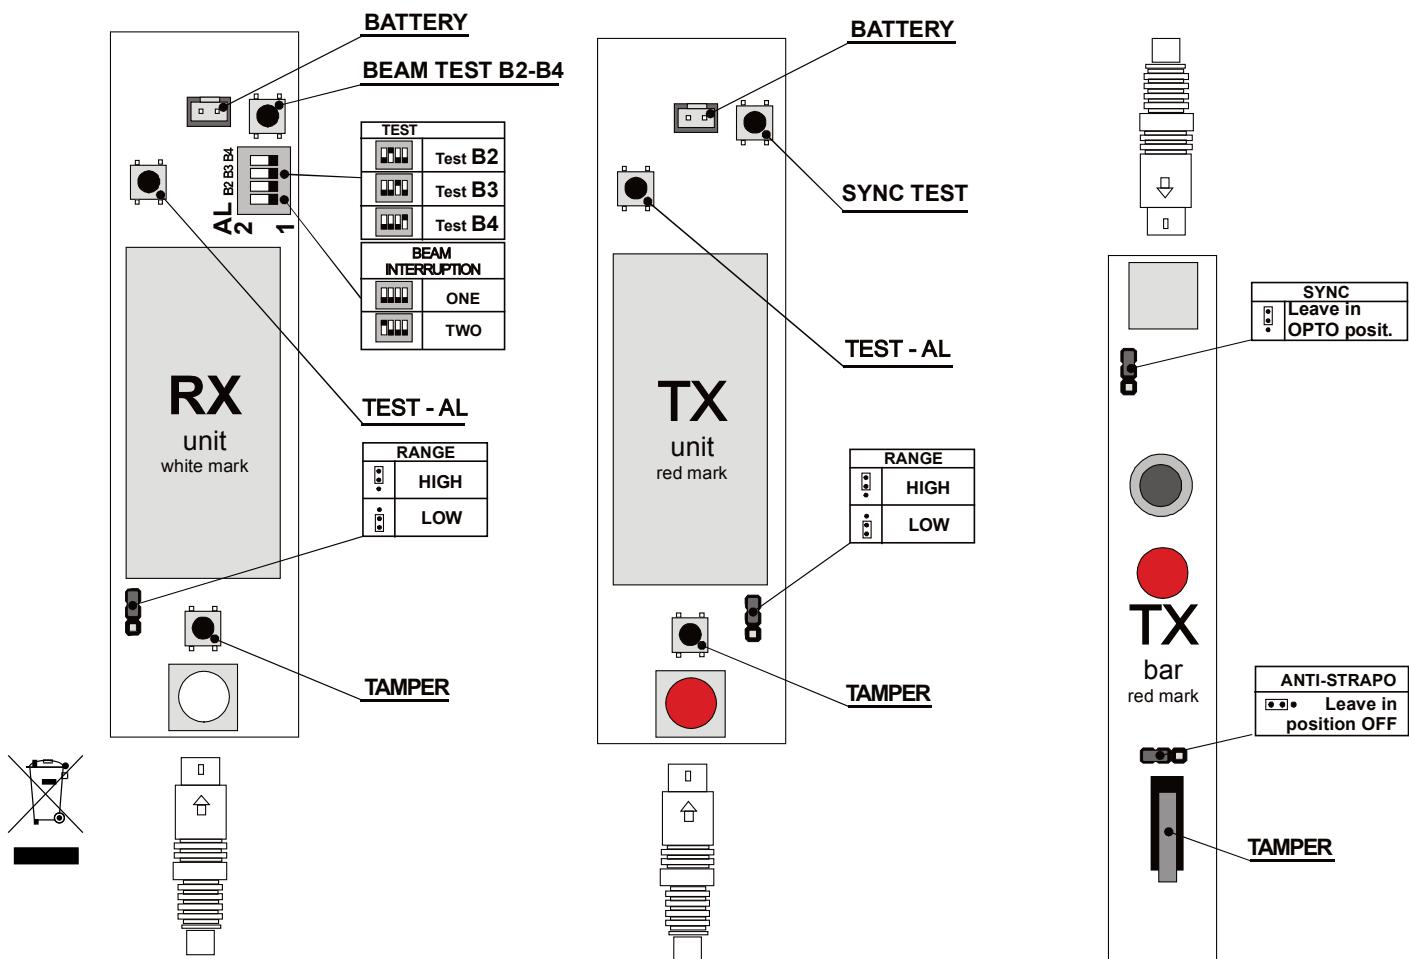

Figure 3
- Based on the distance between the bars, set the RANGE jumpers (see Figure 3) according to the following table:
11. For correct functioning of the tamper positioned in the bars, check that the ANTI-STRAPPO jumper (see Figure 3) is in the OFF position. A tamper of the RX unit is reported to the system as a tamper alarm and a tamper of the TX unit is reported as activation of the detector (instant or delay zone).